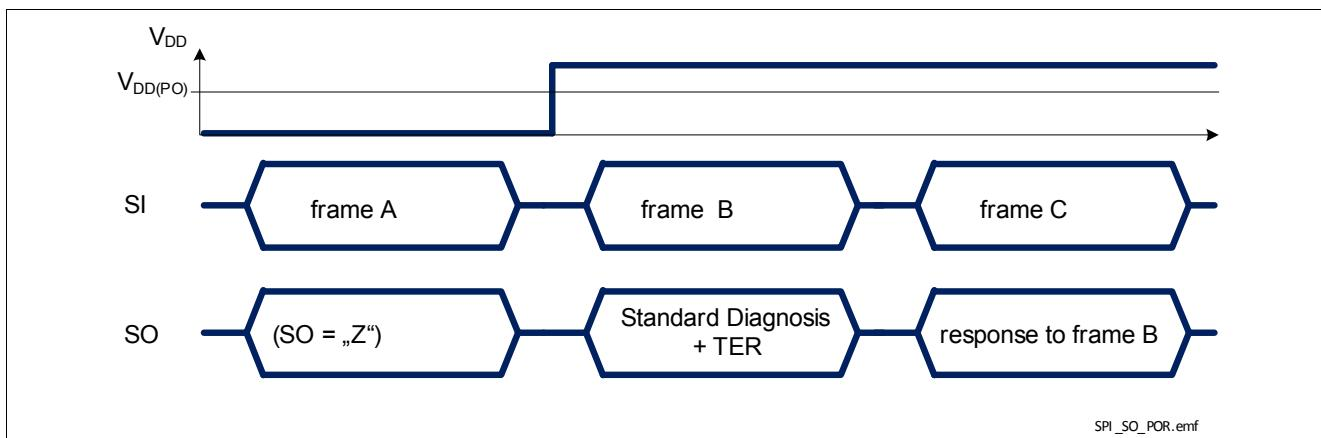

Figure 34 BTS56033-LBA response after coming out of Power-On reset at V_{DD}
- when BTS56033-LBA logic supply comes out of Power-On reset condition, as shown in Figure 34